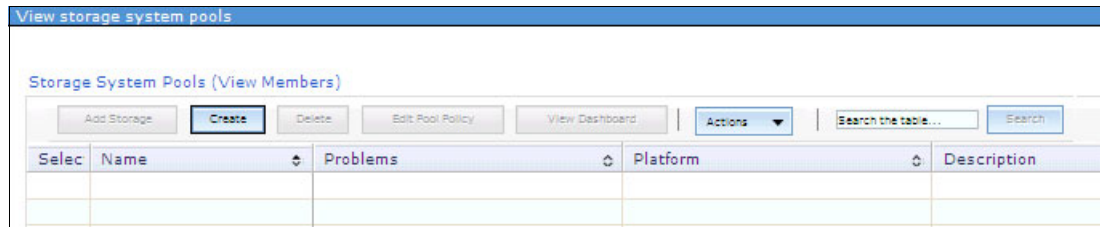

Figure 9-58 No storage system pools available
2. The View storage system pools window opens as shown in Figure 9-58. There are no storage system pools available at the moment. Click **Create**.